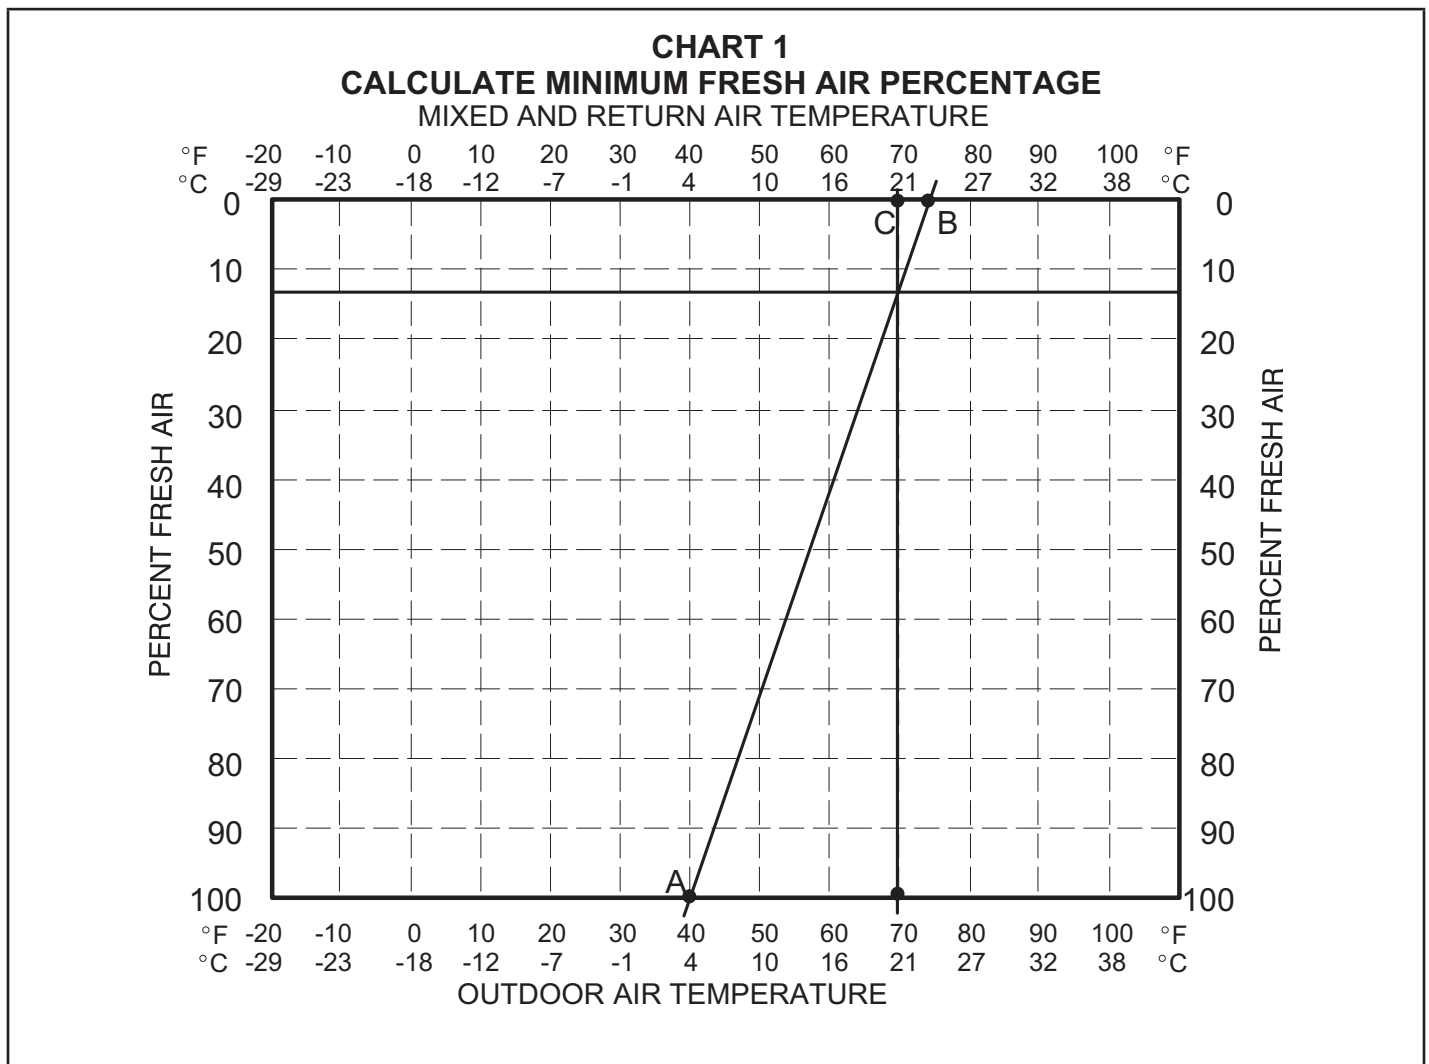

FIGURE 21
- 5 - Measure outdoor air temperature. Mark the point on the bottom line of chart 1 (figure 21) and label the point "A" (40°F, 4°C shown).